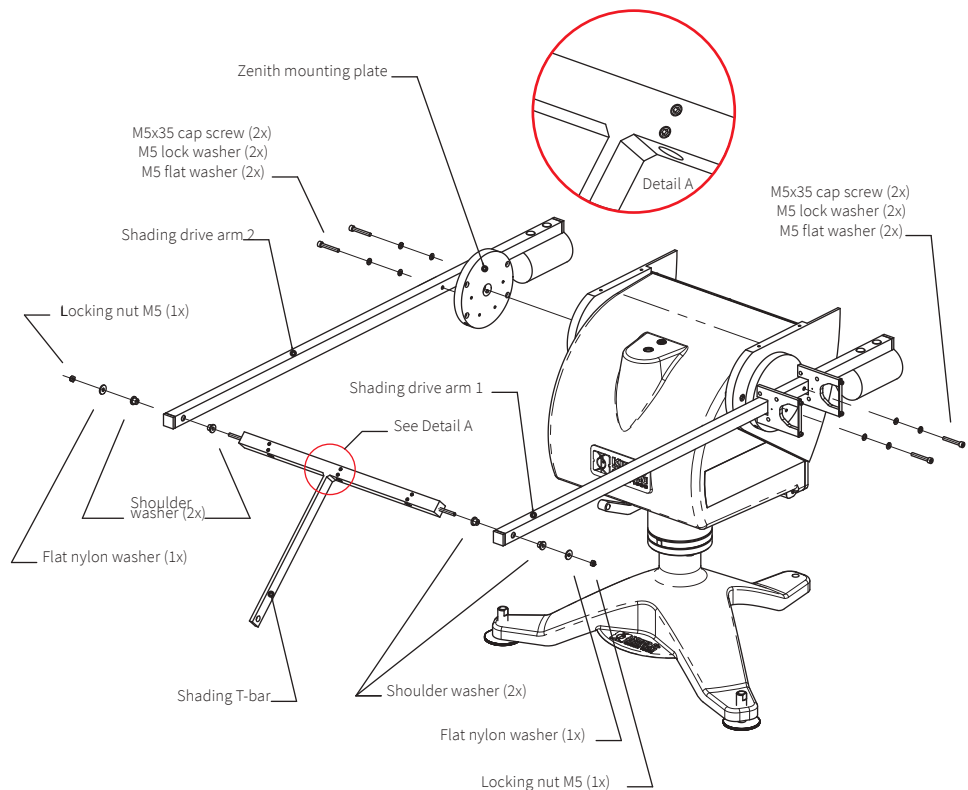

Figure 3.16: Mounting of the shading drive arm
- Attach both the shading drive arms with the designated screws. Ensure the counter weights are facing down. Do not completely tighten the screws yet, some movement for installing the T-bar is required, see figure 3.16.
- Tighten the shading drive arm screws and mount the second side plate to the axis with its two screws after aligning the two shading drive arms, see figure 3.16.